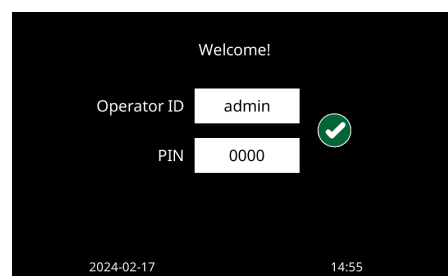

Figure 3. Login Screen
1. Tap on the Operator ID window. See Figure 3.